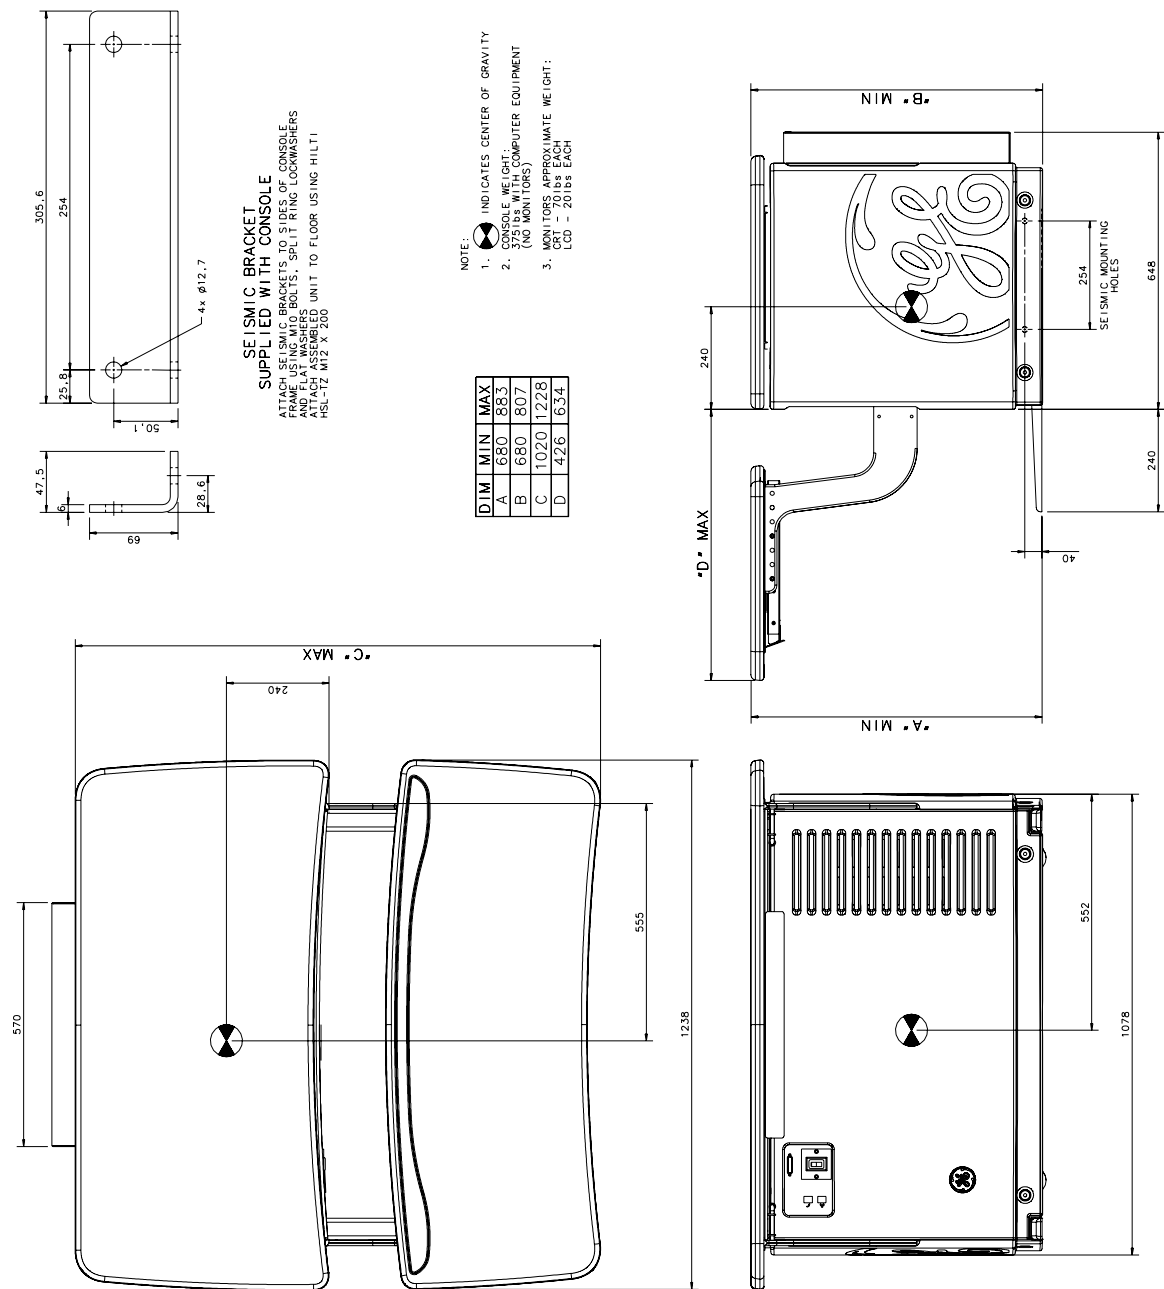

Figure 6-7 Operator's Console (Global Console)
- Operator's Console/Computer: Figure 6-7